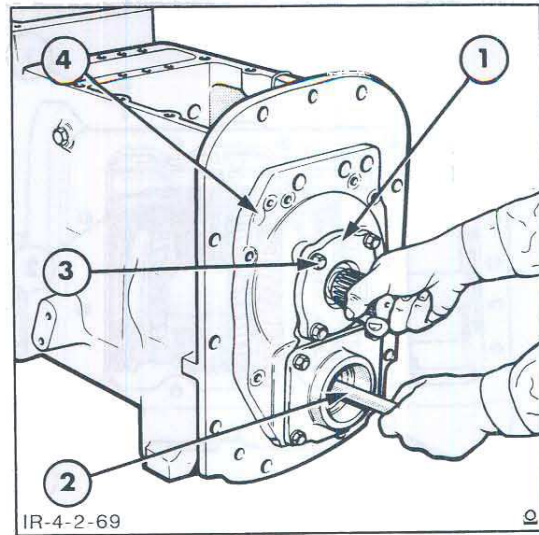

Figure 70
12. Insert a suitable rod through the countershaft bearing cap hole into the countershaft, Figure 70. Lift the countershaft while positioning the rear cover plate onto the transmission case, Figure 70.